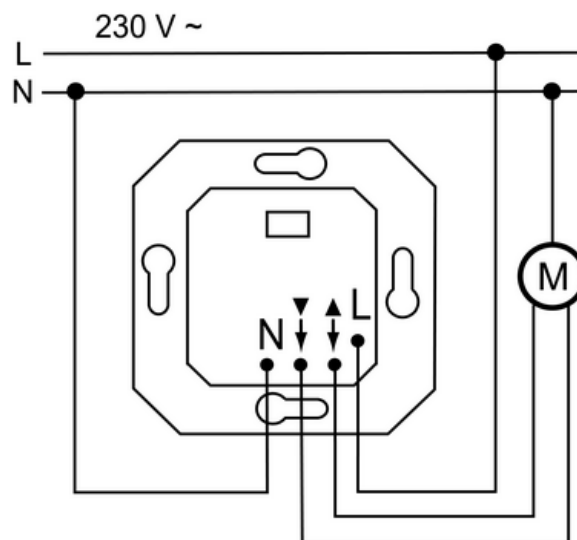

Figure 2: Connection of control
- Connect venetian blind control according to connection diagram (Figure 2).